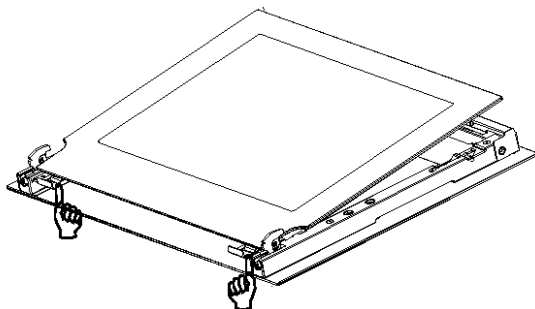

Figure 12
1. To insert the inside glass into fixed holder and push it to the fixed position, as shown in figure 12